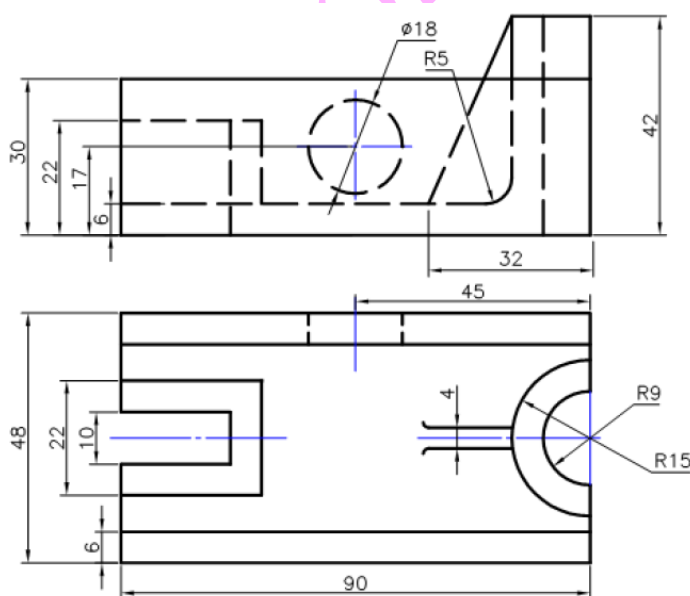

Figure 10.2
2. Draw full sectional front view from the given views in Figure 10.2.